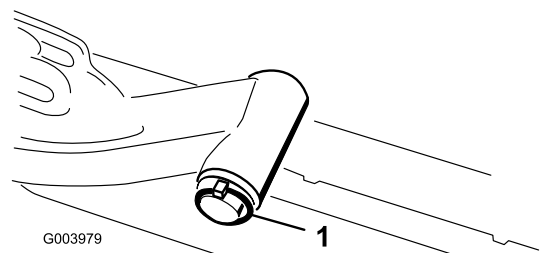

Figure 12
- A. Remove the lynch pin and washer securing the lift arm pivot shaft to the lift arm and slide the lift arm pivot shaft out of the lift arm (Figure 12).
- C. Insert the lift arm shaft into the lift arm and secure it with the washer and lynch pin (Figure 12).